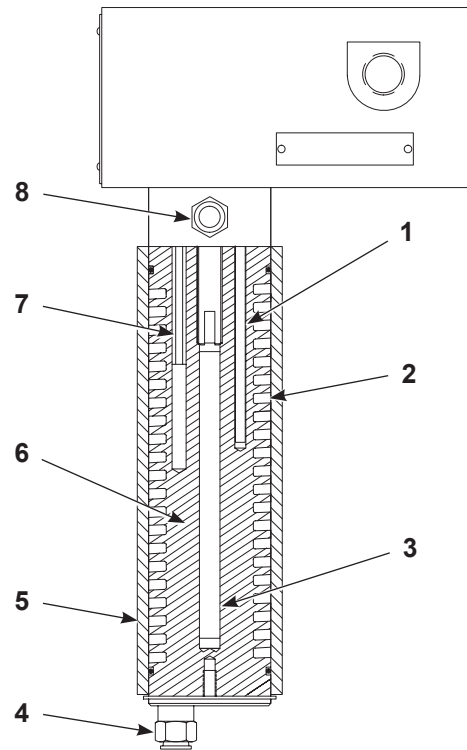

Figure 2 Cutaway View of Heater Components
See Figure 2. The heater cartridge heats the fluid passage body (6). Coating material flows through the inlet port (4) and the spiral passages in the fluid passage body where it is heated then exits through the outlet port (8).